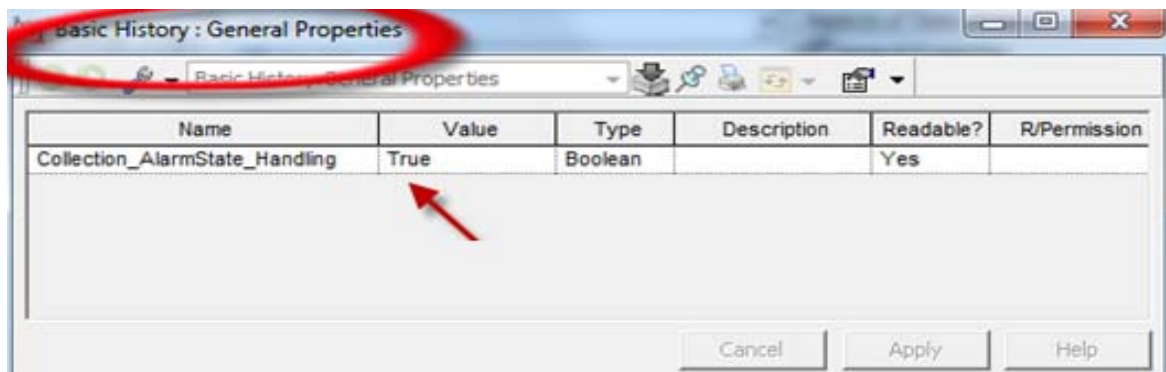

Figure 327. Basic History Window
4. Change the **Collection\_AlarmState\_Handling** general property on the basic history service node to **TRUE** as shown in Figure 327.